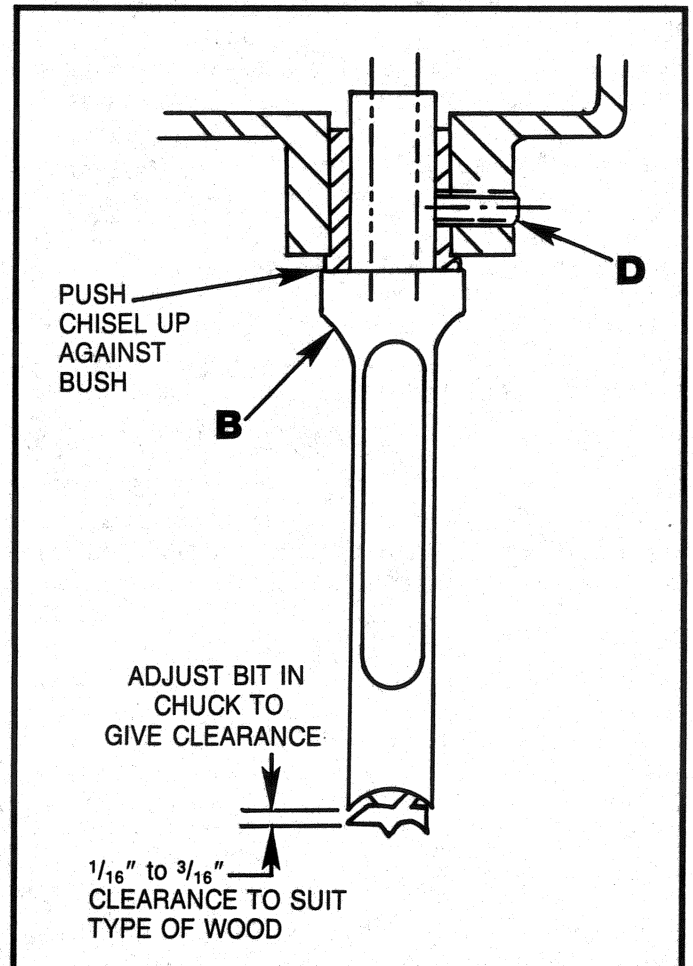

Fig. 15
5. Loosen set screw (D) Fig. 15, and push chisel (B) up into the head and tighten screw (D). **NOTE:** Chisel (B) was lowered approximately  $1/16$ " in **STEP 3**. The flat portion of the bit should be adjusted to a minimum of  $1/16$ " away from the bottom of the chisel, as shown in Fig. 15. For certain types of wood it may be necessary to increase this distance up to a maximum of  $3/16$ " clearance. This method assures having proper clearance between the cutting lips of the bit and the points of the chisel.